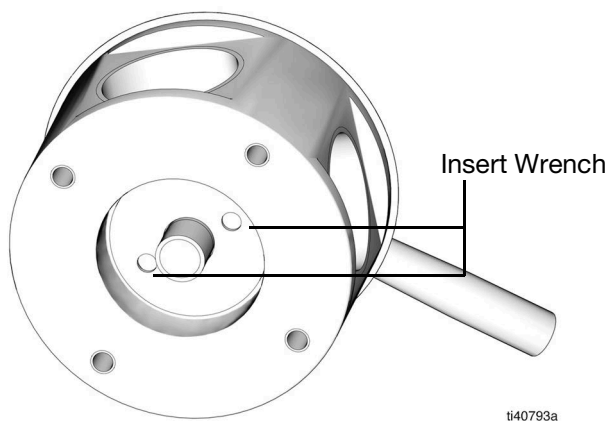

FIG. 2
1. Use a spanner wrench with pin diameter of 1/4 in. (.635 cm) to take apart the valve (FIG. 2).